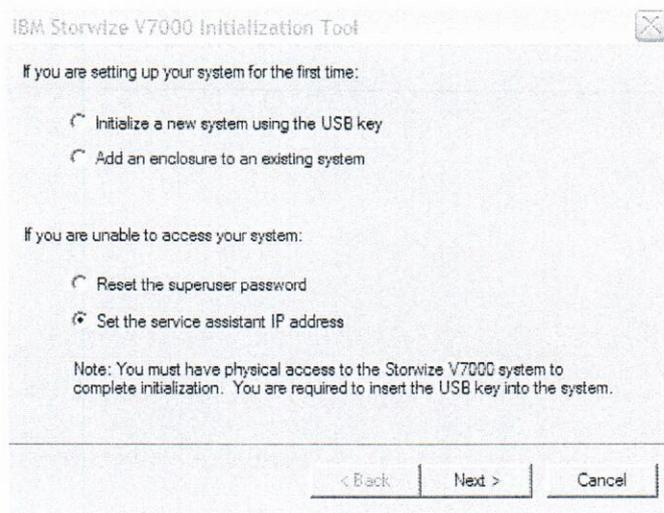

Figure 5 Storwize V7000 initialisation tool window.
6) The Storwize V7000 initialisation tool window will appear (Figure 5)